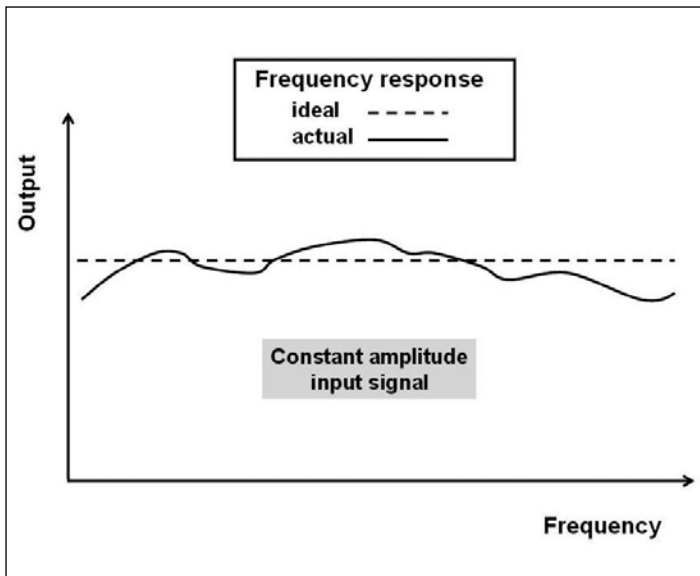

Figure 13. A non-linear frequency response is shown
- a *linear frequency response* over its working frequency range (Figure 13),